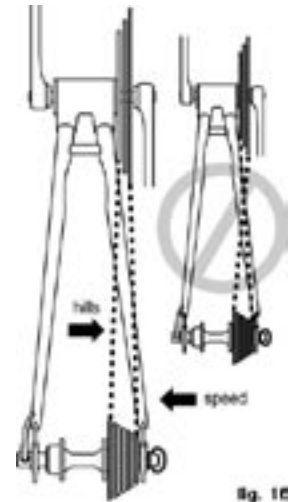

Fig. 11
- (1) If your bike has rim brakes, disengage the brake's quick-release mechanism to open the clearance between the tire and the brake pads (see Section 4.C, figs. 11 through 15).
- (2) Using a correct size wrench, loosen the two axle nuts.
- (3) If your front fork has a clip-on type secondary retention device, disengage it and go to the next step. If your front fork has an integral secondary retention device, loosen the axle nuts enough to allow wheel removal; then go to the next step.
- (4) Raise the front wheel a few inches off the ground and tap the top of the wheel with the palm of your hand to knock the wheel out of the fork ends.
(1) If your bike has rim brakes, disengage the brake's quick-release mechanism to open the clearance between the tire and the brake pads (see Section 4.C, figs. 11 through 15).
(2) Shift the rear derailleur to high gear (the smallest rear sprocket) and pull the derailleur body back with your right hand.
(3) Using the correct size wrench, loosen the two axle nuts.
(4) Lift the rear wheel off the ground a few inches and, with the derailleur still pulled back, push the wheel forward and down until it comes out of the rear dropouts.
3. *Some bicycle brakes, such as disc brakes (fig. 11) and linear-pull brakes (fig. 12), are extremely powerful. Take extra care in becoming familiar with these brakes and exercise particular care when using them.*
It's very important to your safety that you learn and remember which brake lever controls which brake on your bike. Make sure that your hands can reach and squeeze the brake levers comfortably. If your hands are too small to operate the levers comfortably, consult your dealer before riding the bike. The lever reach may be adjustable; or you may need a different brake lever design. Most brakes have some form of quick-release mechanism to allow the brake pads to clear the tire when a wheel is removed or reinstalled. When the brake quick release is in the open position, the brakes are inoperative. Ask your dealer to make sure that you understand the way the brake quick release works on your bike (see figs. 11, 12, 13, 14 & 15) and check each time to make sure both brakes work correctly before you get on the bike.